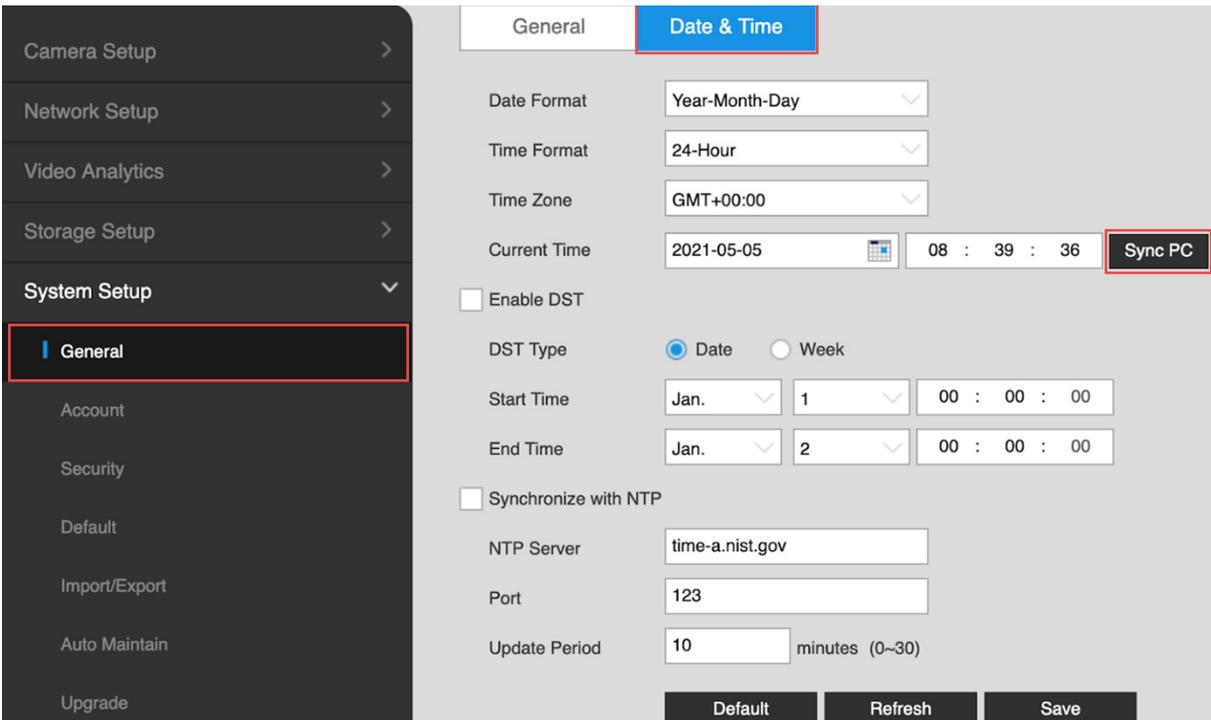

Fig. 4.19
18. Select "System Setup" from the sidebar menu and then "General" (from the sidebar menu). With the "Date & Time" tab selected, press the "Sync PC" to the right of the "Current Time" field (this assumes your laptop has the correct date and time). See Fig. 4.19. Save your settings.